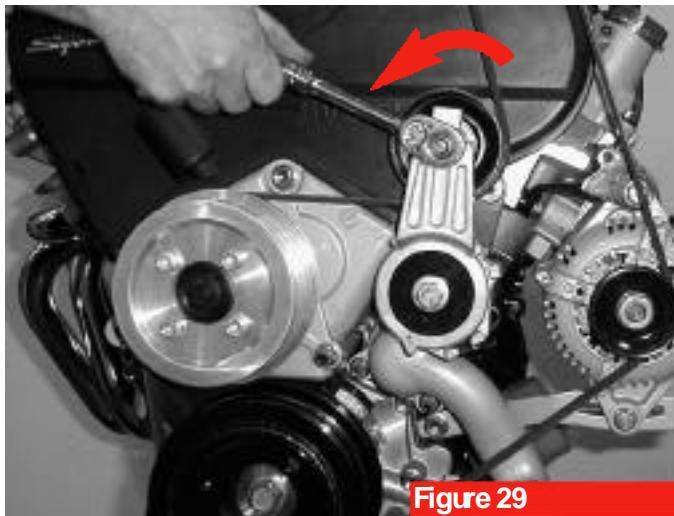

Figure 29
7. *To assist in belt installation, using a 3/8" long handle ratchet (figure 29), pull down in direction of arrow to provide slack on belt.*